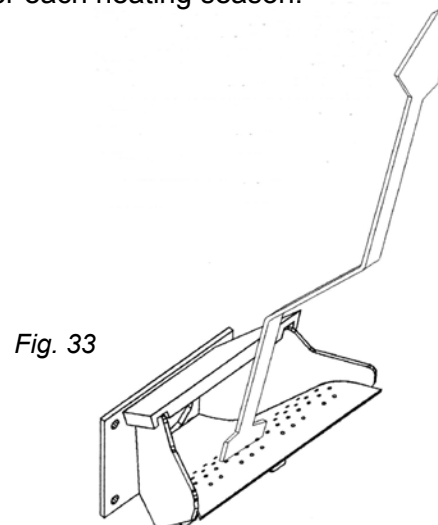

Fig. 33
Whenever adding fuel to the hopper, take the time and scrape the grate surface of the burnpot, using the scraper tool provided. This can be done while a fire is burning. Wearing heat resistant gloves, open the firebox door. Scrape any accumulated ashes from in front of the fire, into the ash pan. Now, scrape under the fire, in a downward direction, to loosen any carbon deposits. Do not scrape the fire out of the pot. Whatever you loosen will be pushed out with the flow of new fuel into the pot. (Fig.33)
4. Scrape burnpot with flat end of scraper provided with the stove. Inspect the holes on the burnpot surface. See Fig. 33.
1. Scrape the top holed surface and sides of the burn pot. (Fig. 33) It is not necessary to completely remove all of the loosened material from the burn pot. The excess will be pushed out during the next use.